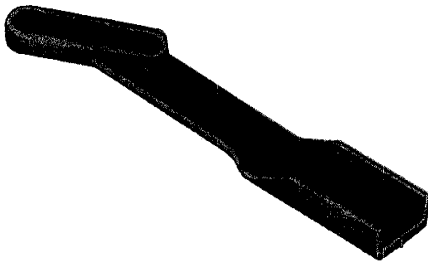

Fig. 23 — KS-16576, List 6 Designation Plate
- 6.16 The KS-16576, List 6 designation plate, Fig. 23, is a red plastic hood designed to cover the test-terminals on the cable side of 300-type connectors.